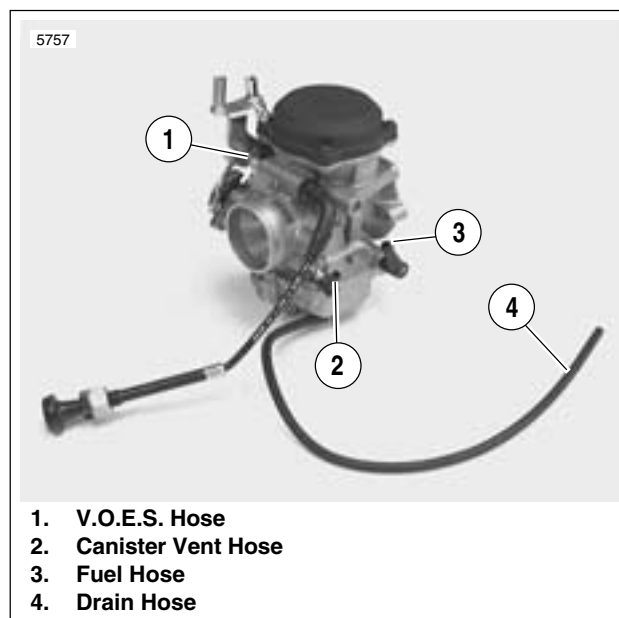

Figure 4-12. Carburetor Hoses
5. See Figure 4-12. Disconnect fuel hose (3) from carburetor. Discard fuel hose clamp.
6. Disconnect V.O.E.S. hose (1) from carburetor.
10. Disconnect carburetor drain hose (4) from drain fitting. On California models, disconnect canister vent hose (2).